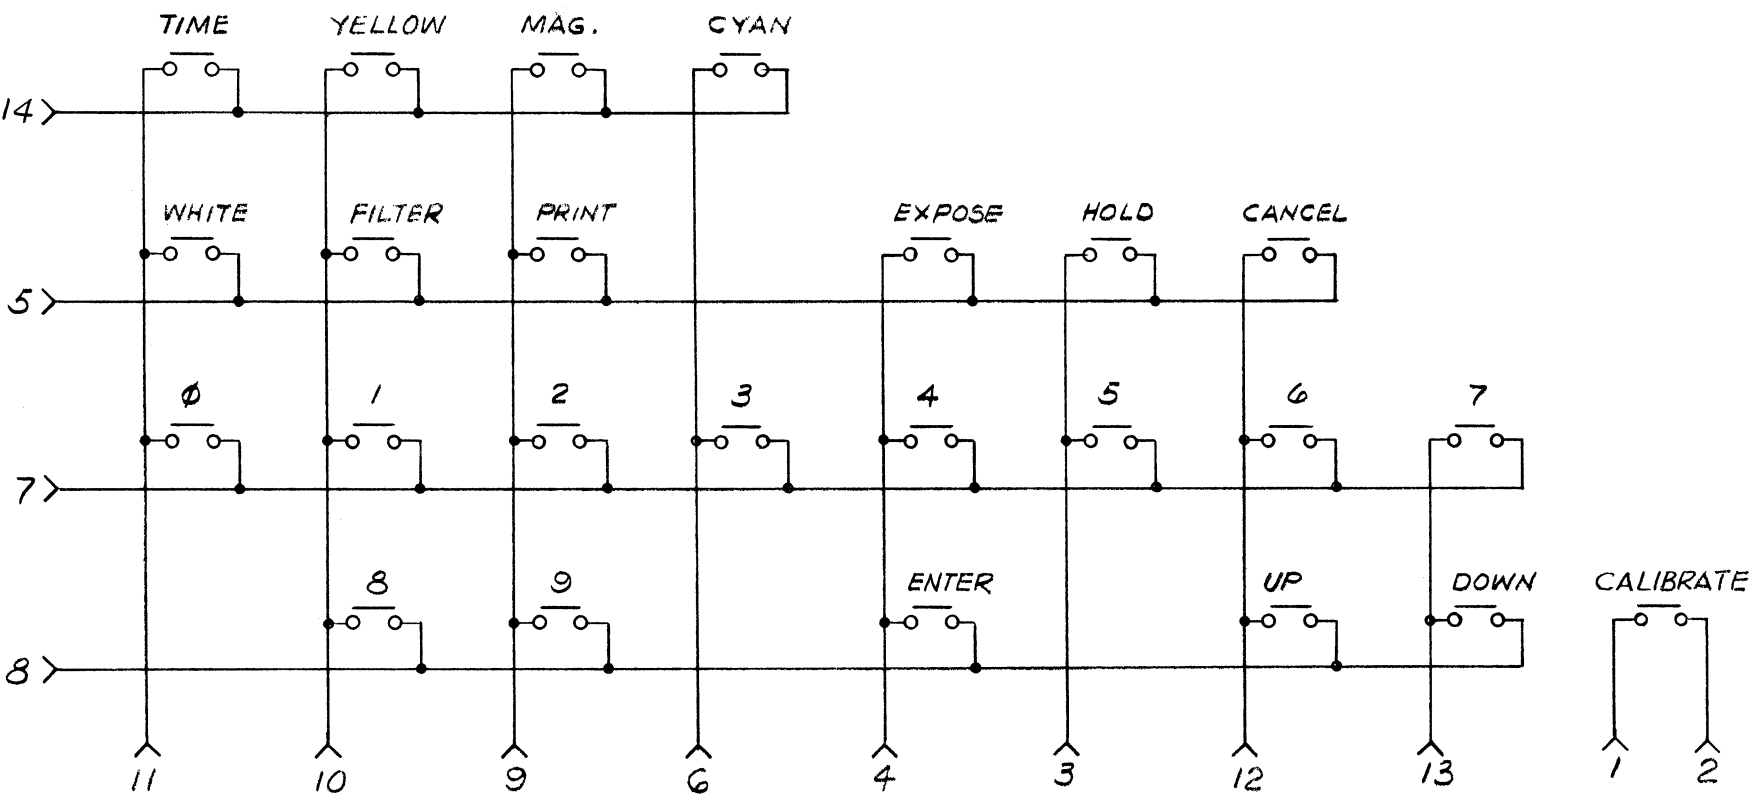

Figure 4-4. CLS Controller Front Panel, Schematic Diagram
- Figure 4-4. CLS Controller Front Panel, Schematic Diagram